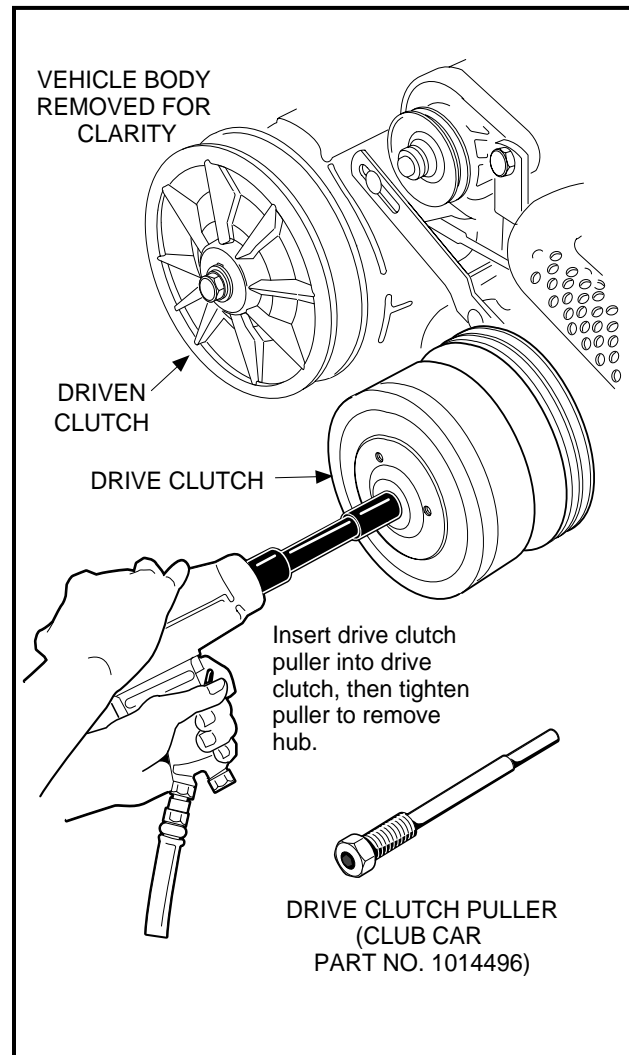

Figure 17-4 Drive Clutch Removal
6. Using a 1/2 inch drive air wrench, tighten the clutch puller tool. The drive clutch will come free of the crankshaft (**Figure 17-4, Page 17-4**).